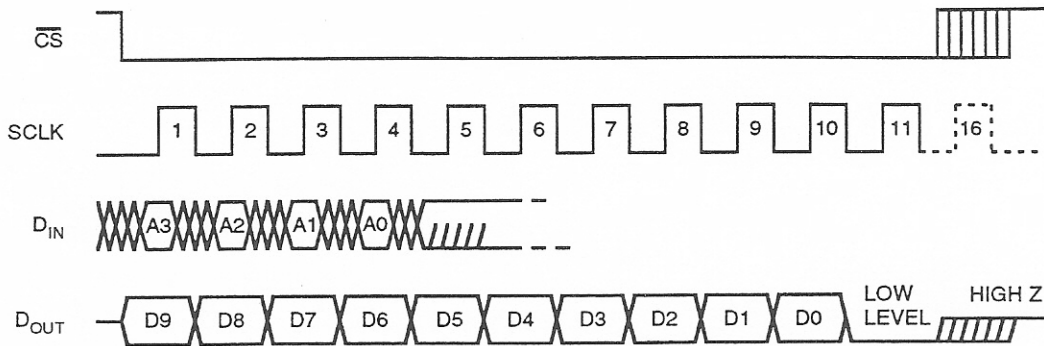
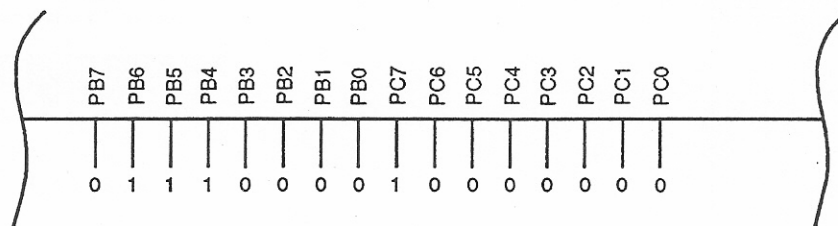

Figure 5. MC145051 Timing Diagram
Figure 7. A/D Value on Port B and Port C
The 5051 is capable of various bit stream formats. The timing diagram used in this application note is shown in Figure 5. The 5051 will wait patiently until its  $\overline{CS}$  pin is asserted low. This signifies that a serial clock will be driving the SCLK pin to transfer the next A/D channel address to be converted. At the same time, the 5051 will be driving out the converted value of the previous conversion. After the 10-bit address is driven out of  $D_{OUT}$ , the  $\overline{CS}$  pin will be driven high to signify the end of the transmission process.
For the SPI to "talk" to the 5051, the SPI must be configured to match up with the 5051 timing diagram, as shown earlier in Figure 5. Also, two SPI transmissions must be sent to form a 16-bit transfer. Before any transmissions can start, the  $\overline{CS}$  pin must be asserted low. This initializes the 5051 and tells it that a new mux address will be sent to it to start the conversion process. The first transfer sends the A/D channel number to the 5051, and the 5051 sends the upper 8 bits of the previously converted value. These 8 bits are written to the MSB of the 16-bit result register and to Port B. The second transfer sends the A/D channel to the 5051 but the 5051 ignores it because it is not needed. The 5051 sends the 705C8 the 2 least significant bits from the previously converted value. These 2 bits are the 2 most significant bits in the received SPI data. This byte is written to the LSB of the 16-bit result register and to Port C. After both transmissions are done,  $\overline{CS}$  is negated high. Port B and Port C now have the 10-bit A/D value of the previous conversion. This output value on Port B and Port C is illustrated in Figure 7. The routine will now sit in an infinite loop waiting for a reset.
- 5) Pull the **RESET** pin low and then high. The routine will run again, and the previous value of the AN0 channel conversion is represented on Port B and Port C. The value for Port B should be \$70 and Port C should be \$80. The result might differ by a least significant bit (LSB). (See Figure 7.)
As stated in the preceding hardware section, I/O pins have been used to send out the correct serial transmission protocol to the 5051. The HC05 CPU provides special instructions to specifically manipulate single I/O pins. The 5051 serial stream shown in Figure 5 will be re-created by four I/O pins on the HC705K1.